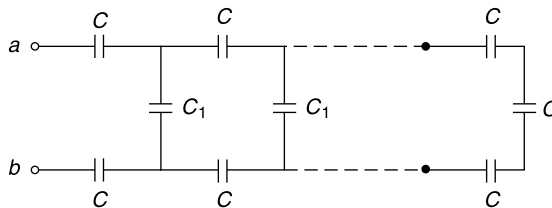

Fig. 2.33 Capacitance configuration (Ex. 2.21)
2.21 In Fig. 2.33, $C = 9\text{F}$; $C_1 = 6\text{F}$. Find the equivalent capacitance across $(a - b)$.